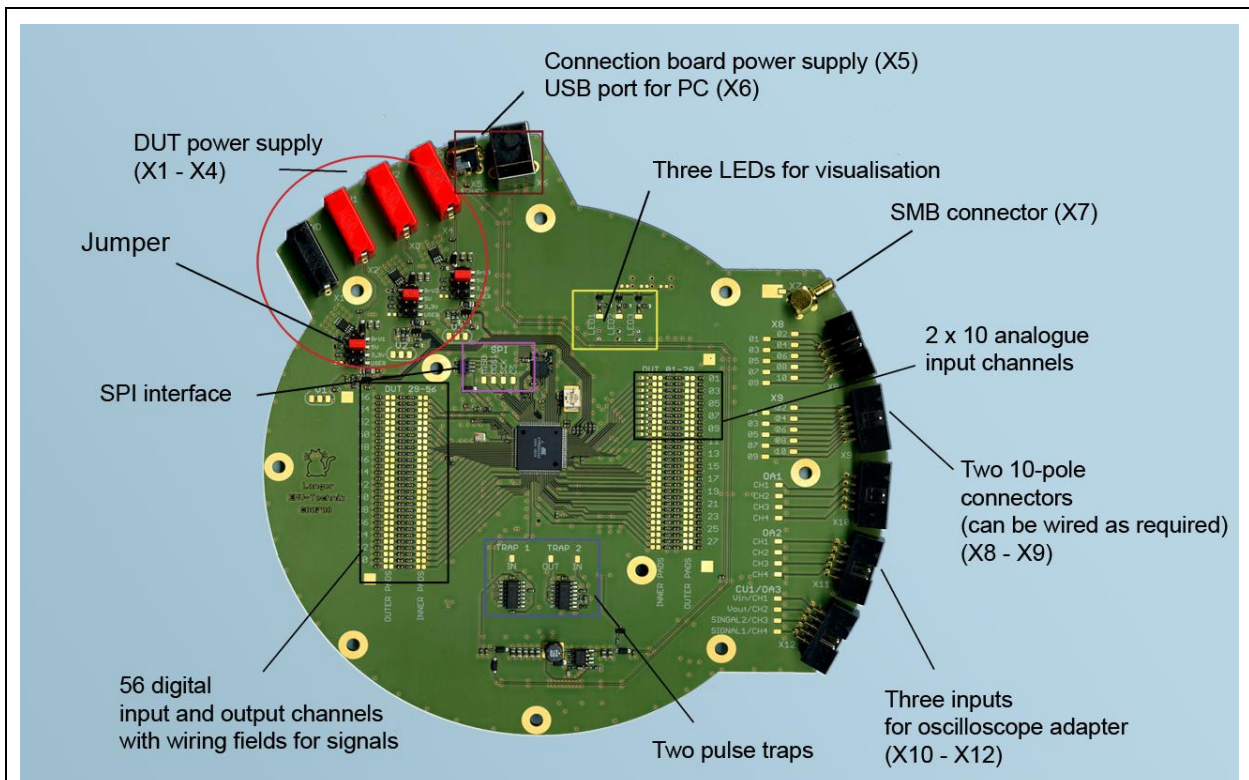

Figure 15: Functional blocks of the connection board
The test IC is operated with the connection board. The connection board is responsible for controlling the test IC (via a control unit that is not included in the scope of delivery, X12 - Figure 15) and monitoring the test IC (three LEDs, Trap2 and oscilloscope adapter). The test board with the test IC is inserted into the ground adapter and GND 25 ground plane. The wiring fields of the connection board are hard-wire programmed via soldered connections (e.g. enamelled copper wire) depending on the test objective.
5. RF socket X7 on the CB 0708 connection board (Figure 15).
The oscilloscope adapter can be used within the connection board system set-up with or without a PC being connected (chapters 3.2 and 3.3). The oscilloscope adapter is connected to the sockets X10 to X12 of the CB 0708 connection board via the ribbon cable (Figure 15: Functional blocks of the connection board).
The connection board is not connected to the USB interface (X6 - Figure 15) of the PCs in this mode of operation. Power is supplied via the external 12 V power supply unit (connection board power supply X5 - Figure 15) for the whole connection board.
In addition, the test IC can be controlled and monitored with external devices via the sockets X7 to X12 (Figure 15). The SGA 30 and SGA 45 probe adapters, the TH 22 probe head holder with the respective measuring devices and the OA 4005 oscilloscope adapter can be used for monitoring purposes.